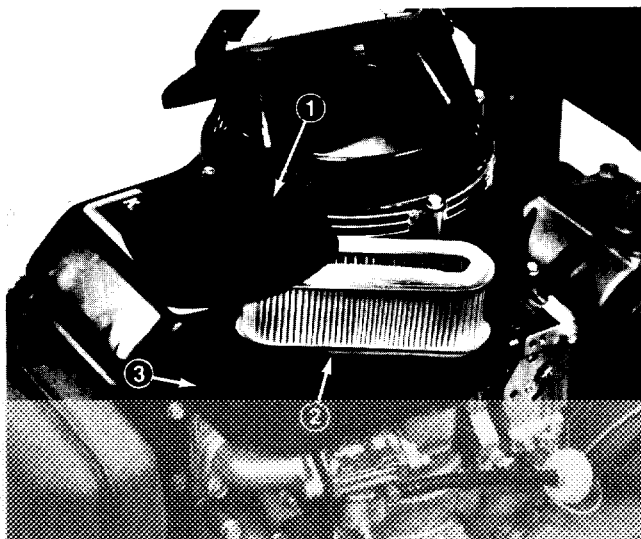

Figure 11
2. Remove foam pre-cleaner by sliding it off the paper element (Fig. 11).